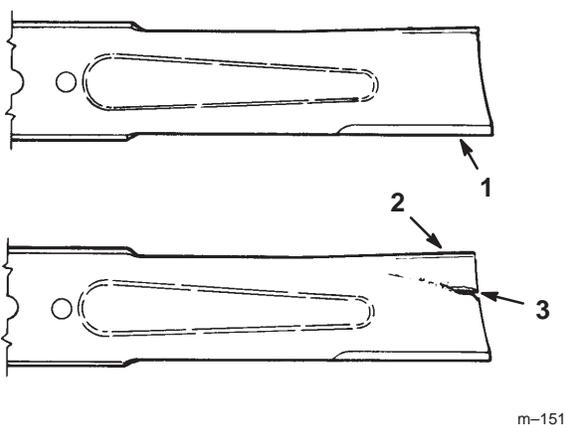

Figure 15
1. Inspect the cutting edges (Fig 15). If the edges are not sharp or have nicks, remove and sharpen the blades. Refer to Sharpening the Blades on page 38.
2. Inspect the blades, especially the curved area (Fig. 15). If you notice any damage, wear, or a slot forming in this area (item 3 in Fig. 15), immediately install a new blade.